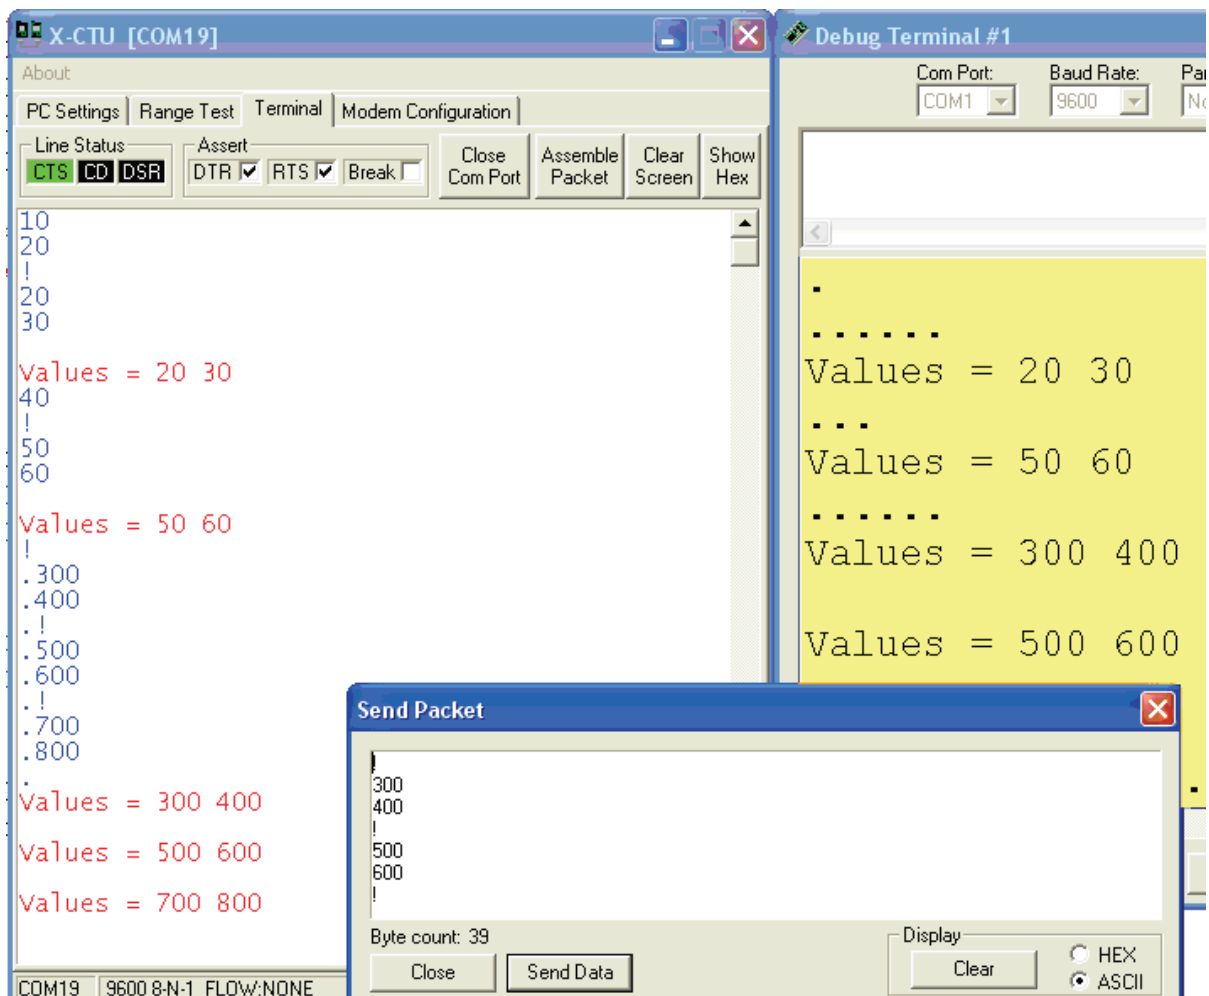

Figure 4-7: Using RTS for Decimal Values Testing
- ✓ Use the Send Packet window to make a series of numbers and !'s to be sent, and test. Notice in Figure 4-7 each set of data following the delimiter was correctly processed.